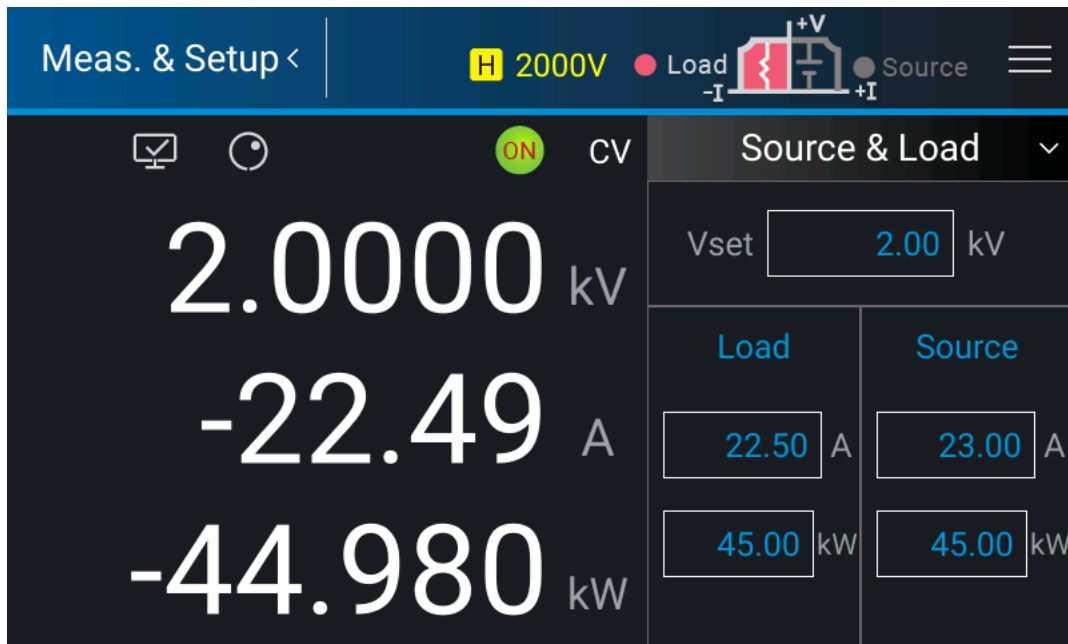

Figure 3-3
Tap A next to the numbers under Source, and the rest of the settings are the same as shown in Figure 3-3.
1. Figure 3-3. Click the Psource/Pload mapping column and input the setting value.